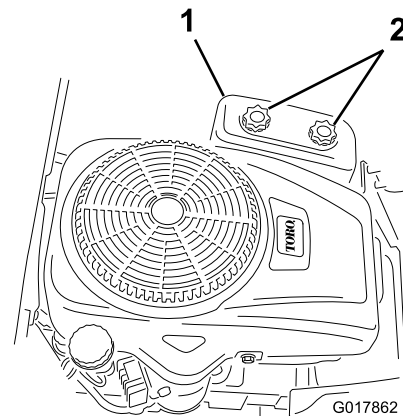

Figure 26
4. Remove the air cleaner cover by unscrewing the 2 knobs (Figure 26).